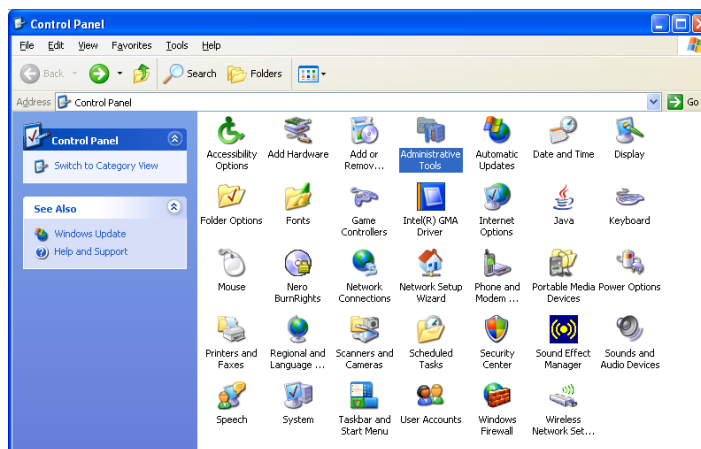

Figure A-5: Control Panel in Classic View
3. Use the options on the left side of the *Control Panel* screen to set the display Classic View, which is shown in Figure A-5.